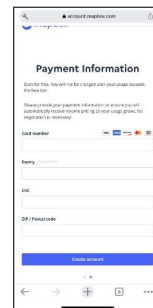

Figure 2
2.3 Enter payment information. (See Figure 2)